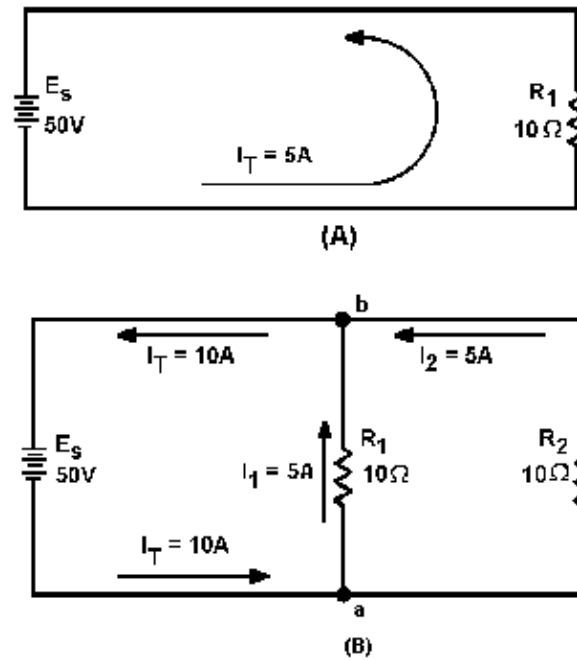
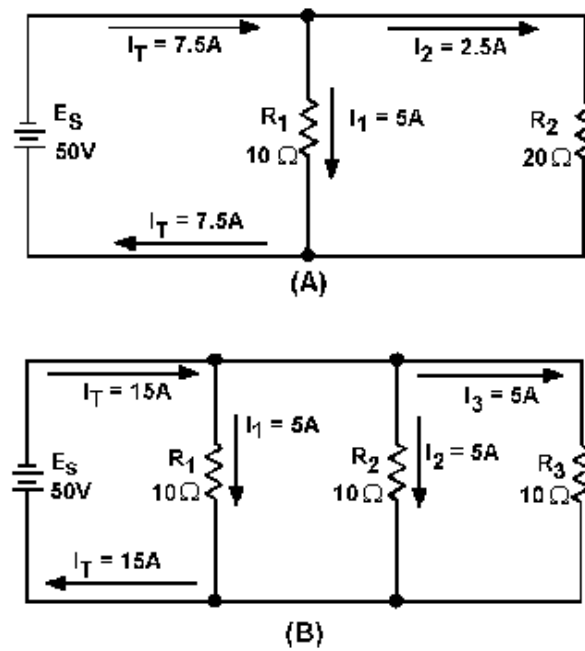

Figure 3-40.—Analysis of current in parallel circuit.
Figure 3-41.—Current behavior in parallel circuits.
Part (A) of figure 3-40 shows a basic series circuit. Here, the total current must pass through the single resistor. The amount of current can be determined.
Part (B) of figure 3-40 shows the same resistor ( $R_1$ ) with a second resistor ( $R_2$ ) of equal value connected in parallel across the voltage source. When Ohm's law is applied, the current flow through each resistor is found to be the same as the current through the single resistor in part (A).
The total current of 10 amperes, as illustrated in figure 3-40(B), leaves the negative terminal of the battery and flows to point a. Since point a is a connecting point for the two resistors, it is called a JUNCTION. At junction a, the total current divides into two currents of 5 amperes each. These two currents flow through their respective resistors and rejoin at junction b. The total current then flows from junction b back to the positive terminal of the source. The source supplies a total current of 10 amperes and each of the two equal resistors carries one-half the total current.
Each individual current path in the circuit of figure 3-40(B) is referred to as a BRANCH. Each branch carries a current that is a portion of the total current. Two or more branches form a NETWORK.
Compare part (A) of figure 3-41 with part (B) of the circuit in figure 3-40. Notice that doubling the value of the second branch resistor ( $R_2$ ) has no effect on the current in the first branch ( $I_{R1}$ ), but does reduce the second branch current ( $I_{R2}$ ) to one-half its original value. The total circuit current drops to a value equal to the sum of the branch currents. These facts are verified by the following equations.
The amount of current flow in the branch circuits and the total current in the circuit shown in figure 3-41(B) are determined by the following computations.
Notice that the sum of the ohmic values in each circuit shown in figure 3-41 is equal (30 ohms), and that the applied voltage is the same (50 volts). However, the total current in 3-41(B) (15 amps) is twice the amount in 3-41(A) (7.5 amps). It is apparent, therefore, that the manner in which resistors are connected in a circuit, as well as their actual ohmic values, affect the total current.